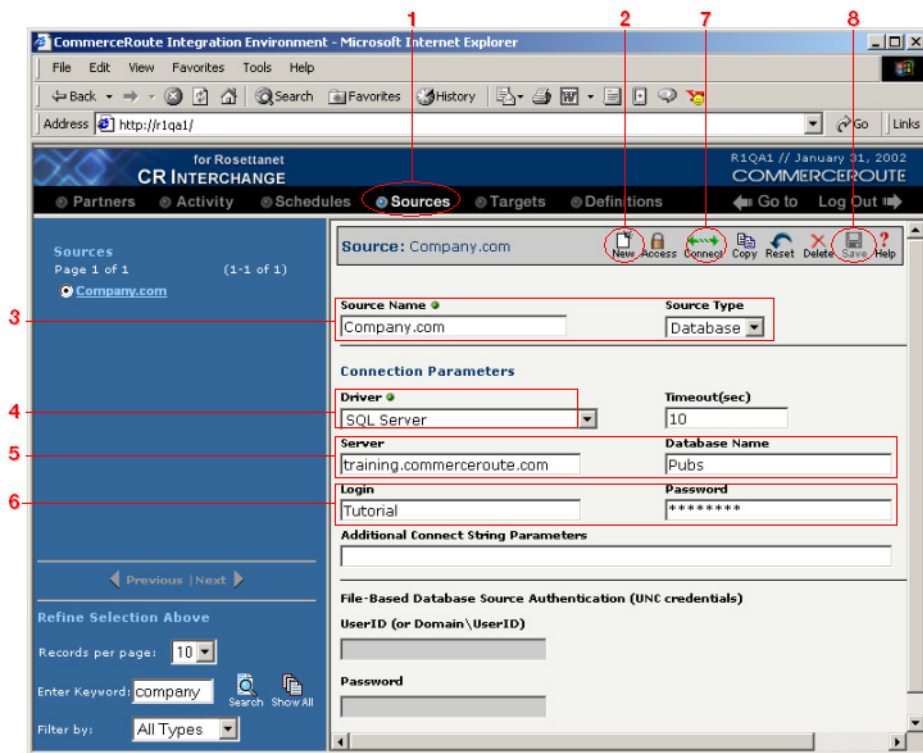

Figure 3-3. The completed Company.com database source.
- ❶ Click on the **Sources** button in the main navigation bar at the top of the screen.
- ❷ If a new source isn't already open, click the **New** button in the toolbar.
- ❸ Label this source `Company.com`, then choose **Database** from the **Source Type** drop-down menu.
- ❹ The database you need to access for this tutorial is a SQL Server database, so select **SQL Server** from the **Driver** drop-down menu.
- ❺ This database is located on a training server. Enter `training.commercero.com` as the Server Name and `Pubs` as the name of the database you want to access.
- ❻ For this tutorial, enter `Tutorial` as your login and `tutorial` as your password.
- ❼ You've finished this source, so click the **Save** button in the toolbar. Note that you now have a new "Company.com" source definition selected in the source list at the left side of the screen. Compare your source to the one shown in Figure 3-3 below.
- ❽ (Optional) If you want to test your connection to the training server, press the **Connect** button. A dialog will appear, telling you the status of your connection.